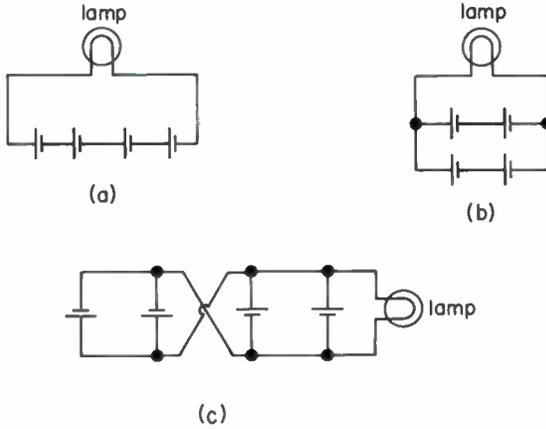

Fig. 42
1. In Fig. 42, assuming each battery cell is a 1.5-V cell and the lamp is rated at 3 V, which drawing shows the cells correctly connected?
2. In Fig. 42, assuming each cell is 1.5 V, which circuit is correctly connected if the lamp is rated at 1.5 V? (Choose your answer from the choices given for Question 1.) 3 (c)